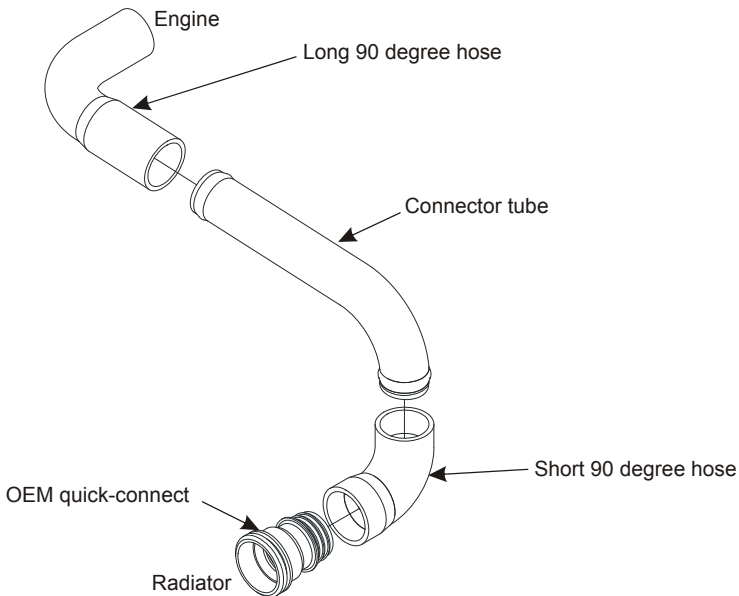

Figure 2.8
- Insert the OEM top radiator hose quick-connect coupler into the large diameter end of the supplied short 90 degree coolant hose and install it on the radiator (Figure 2.8).